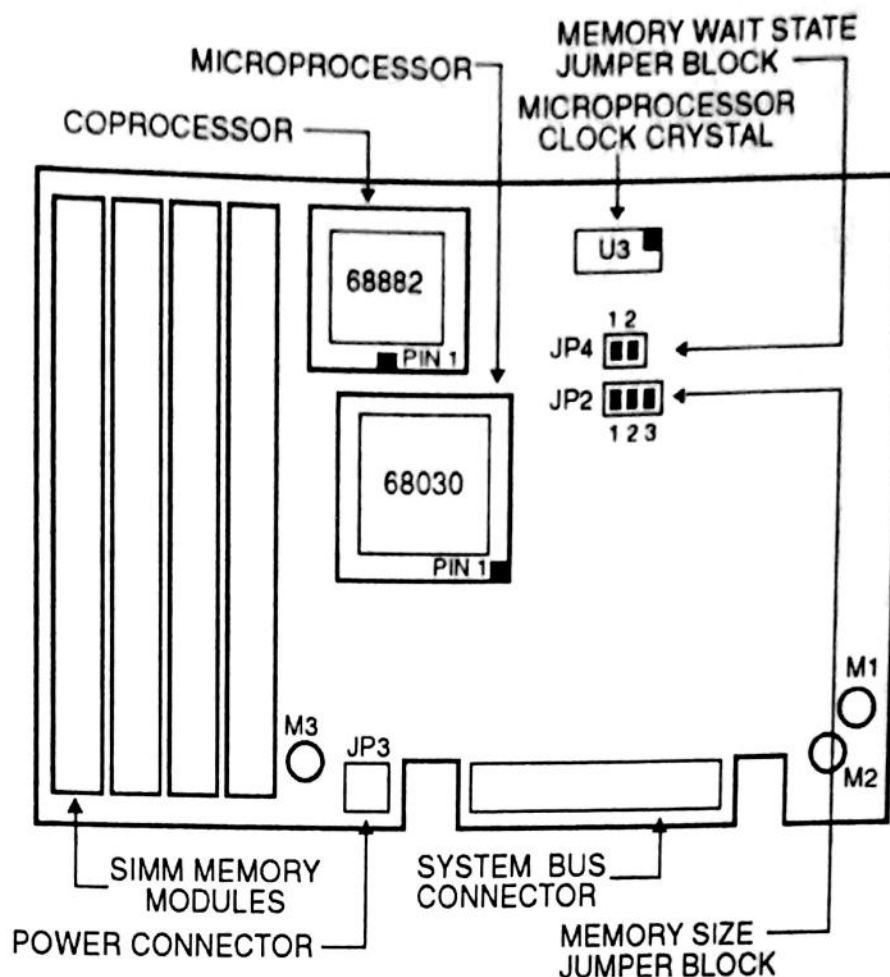

Figure 1 - Quik30 Accelerator Board Configuration with Memory and Wait State Jumper Block Locations
1. Remove the old 68030 and install the new 68030. Refer to Figure 1 for location and orientation.
2. Remove the old clock and install the new clock. Refer to Figure 1 for location and orientation.
3. When changing the microprocessor clock rate, the memory wait state control jumper may need to be adjusted (see Figure 1 for location). If any RAM is present on the *Quik30*, refer to Table 1 to determine how many wait states must be set. If no memory option is present on the *Quik30*, or a wait state of 1 is desired, then no wait state jumper is required. Installing a jumper results in a wait state of 2.
1. Place the edge connector of each SIMM module in a SIMM socket on the *Quik30* Accelerator board. Refer to Figure 1 for location. Be certain the SIMM module is facing up and snap it into place.
2. Locate the memory size jumper block on the *Quik30*. Refer to Figure 1 for location.
4. Locate the memory wait state jumper block. Refer to Figure 1 for location.
1. Install the 68881 or 68882 coprocessor. Refer to Figure 1 for location and orientation.
2. Locate the coprocessor clock select jumper block on the Quik30. Refer to Figure 1 for location.
1. Locate the coprocessor clock crystal position on the *Quik30* board. Refer to Figure 1 for location and orientation.
3. Locate the coprocessor clock select jumper block on the *Quik30*. Refer to Figure 1 for location.